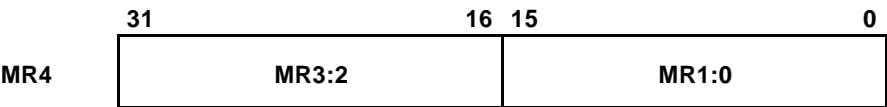

Figure 5-6. MR4 for Long Word Result (80-Bit Accumulation)
- Figure 5-6—Result is a long word (80-bit accumulation)